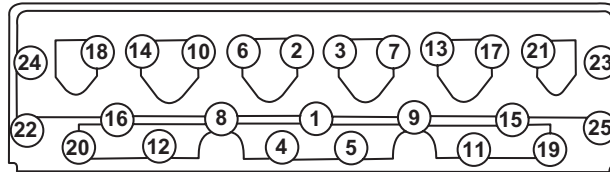

Figure 1
11. Following the sequence shown in Figure 1, loosen the number 1 (one) head bolt one-eighth to one-quarter turn; then tighten the bolt to 81 lb-ft (110 N.m). Re-torque the remaining head bolts one at a time using the same procedure. Under no circumstances must all bolts be loosened at once.